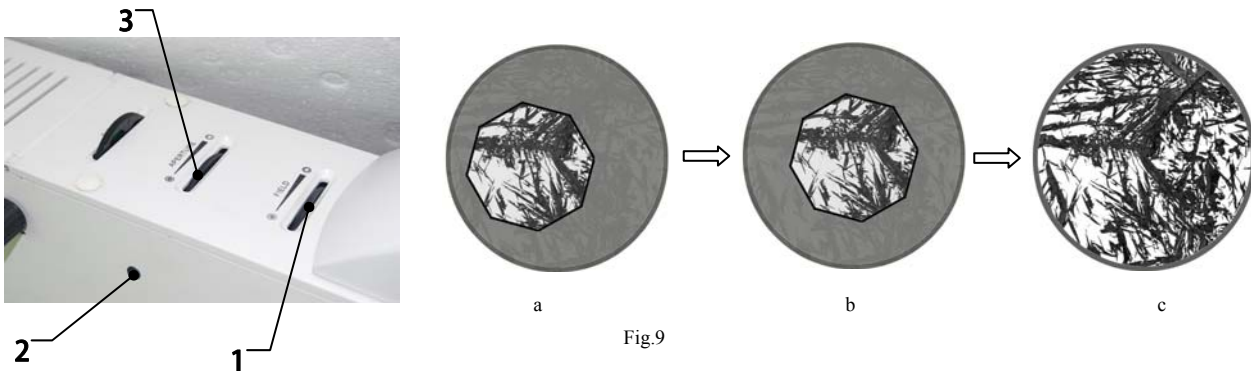

Fig.9
(1) Turn the 10X plan objective into optical path.
(2) Open the aperture diaphragm 2, and close the field diaphragm 1, a light spot will be seen in the field of view, as shown in Fig.9-a.
(3) If the light spot deviates from the center of the field of view, as shown in Fig.9-a, take out the plastic dustproof caps 3 and adjust the centering adjustment screw with two inner hexangular wrenchs to make the field diaphragm center superposition with the field of view center , as shown Fig.9-b, then cover the adjusting hole again.
(4) Open the field diaphragm, so that the observed specimen image fills field, as shown in Fig.9-c.